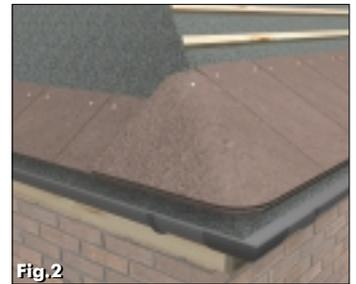

Fig.2
2. Place a slate on a batten on the shallower pitched roof and present a hip slate to it. (Fig.2) (It will be noted that the shallower pitched side of the special is the same length as the slate.)